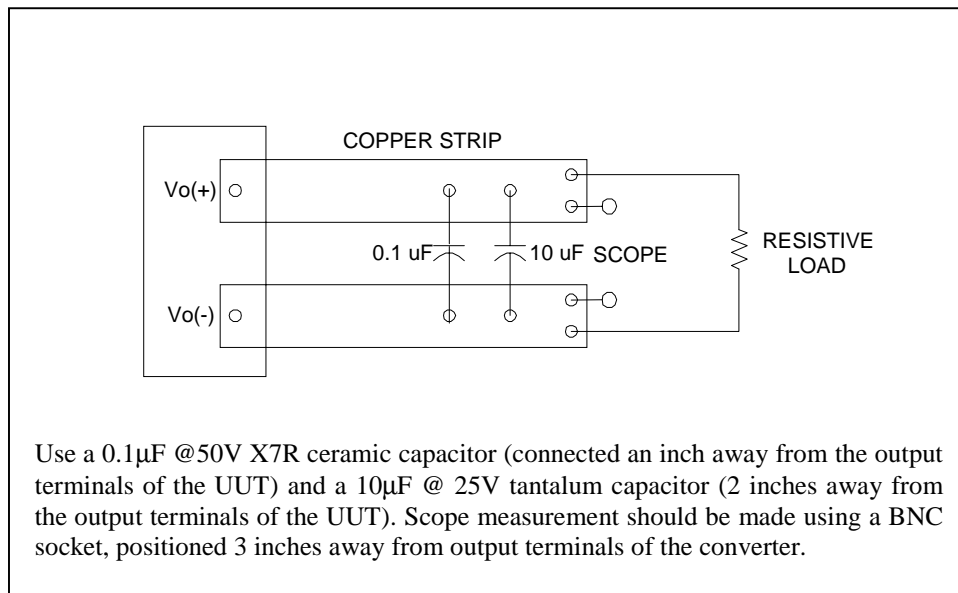

Figure 2. Peak to Peak Output Noise Measurement Setup.
3. Refer to Figure 2 for output ripple and noise test measurement setup.